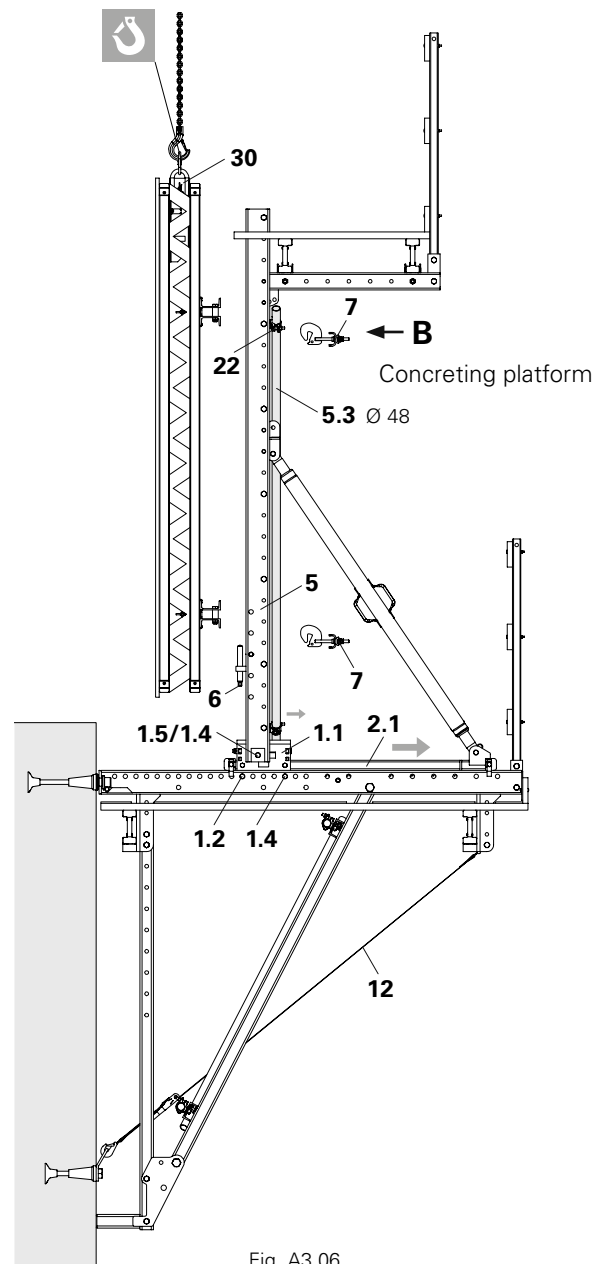

Fig. A3.06
- Open Waler Fixation (7) and remove (4x).
- Carefully lift the formwork with the crane. If necessary, adapt Adjusting Unit (6) or offset (2x).
- Insert Waler Fixation (7) and clamp formwork to prevent tipping (4x).
- Remove Crane Splice (30) from the formwork element.
- The load-bearing point used to move the climbing unit is positioned on the Strongback. (Fig. A3.06)